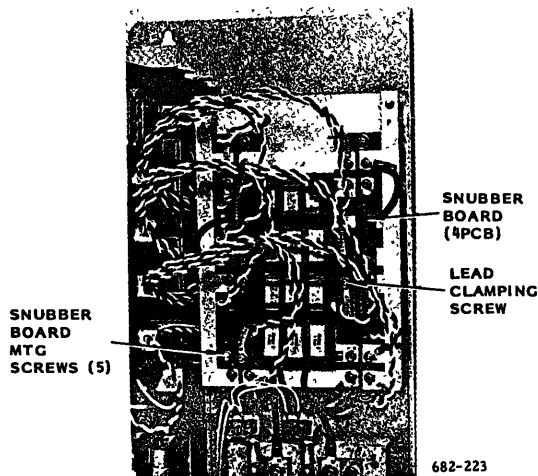

Fig. 13 Field Thyristor Assembly (230 V, 25 A)
1. Remove snubber board (4PCB) mounting screws (5) and lead clamping screws. Remove snubber board. (Fig. 13)